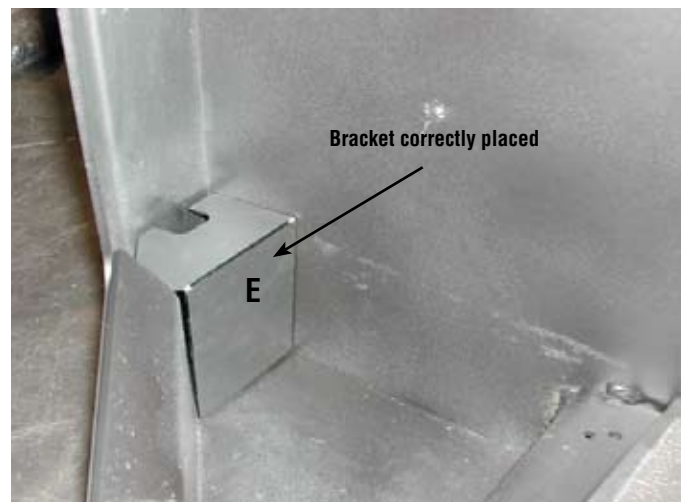

Figure 40
2. One bracket goes into the left corner and the other into the right corner of the firebox. Rotate the brackets so they are placed as shown in **Figure 40**. The bracket fits between the back of the firebox and the air wash at the front of the stove.